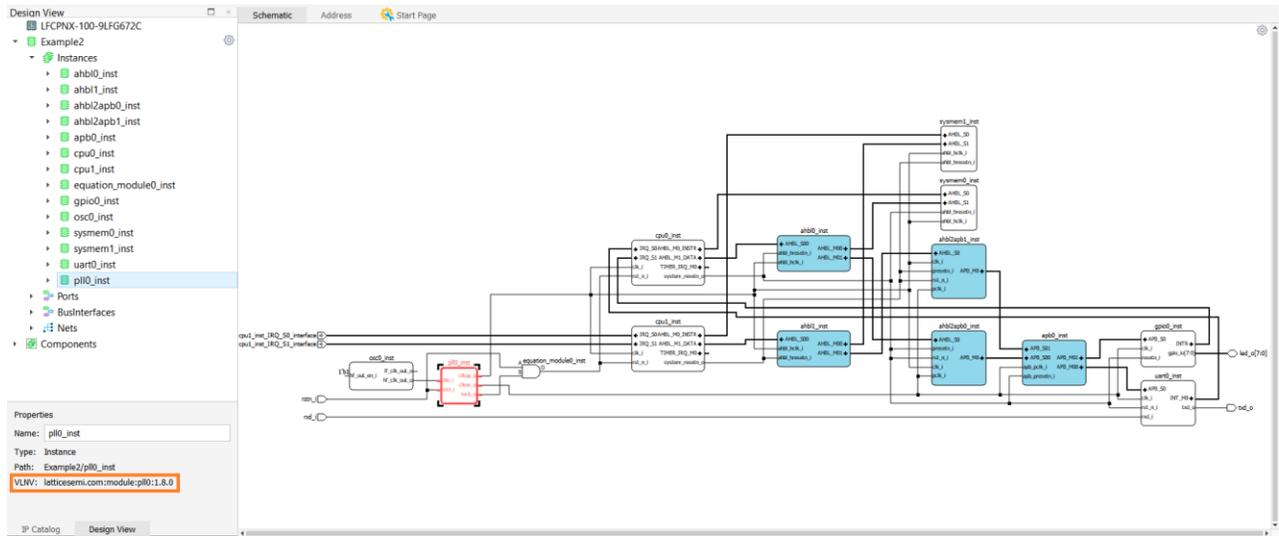
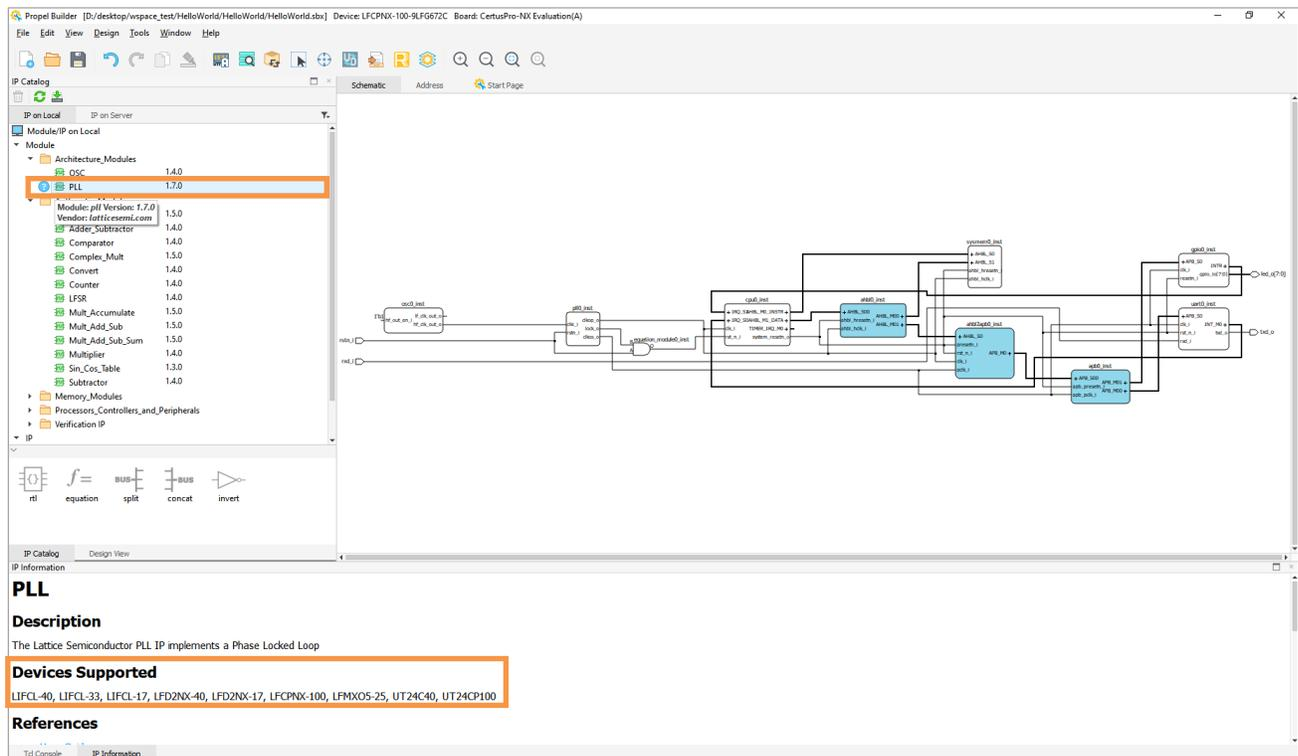

Figure 2.120. Check IP Name in Design View
Figure 2.121. Check Device Supported in IP Information
- Click on an IP instance in **Schematic view**. The **Design View** shows the corresponding information of this IP. Check VLNV for this IP name (Figure 2.120). Go to **IP Catalog** and click on  before this IP to show the **IP Information**. In the **Device Supported** area, all the devices this IP supports are listed (Figure 2.121). Make sure